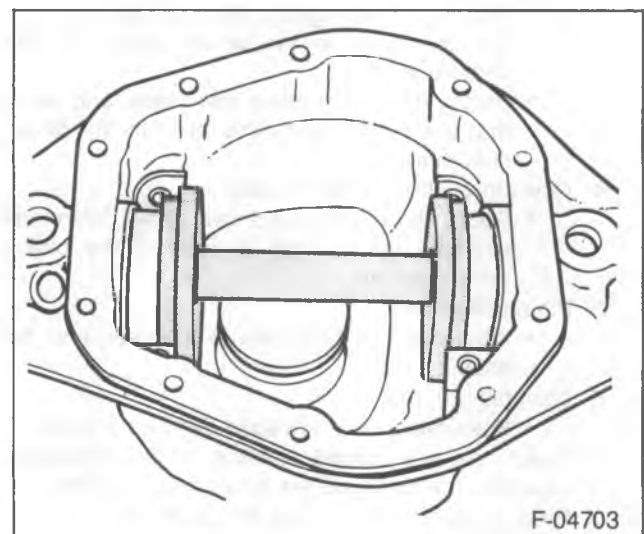

Figure 23—Arbor and Discs
4. Install the arbor and discs into the axle housing (figure 23).